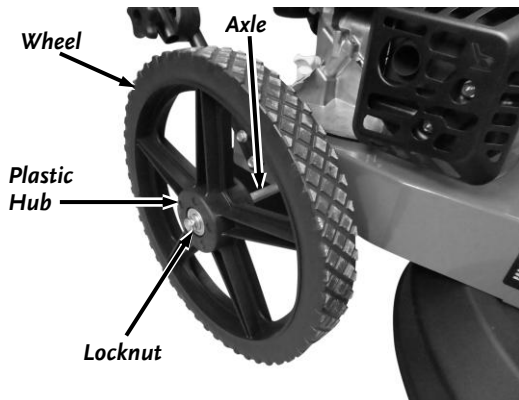

Figure 2
2. Slide the wheel onto the axle with the plastic hub facing out (**Figure 2**).